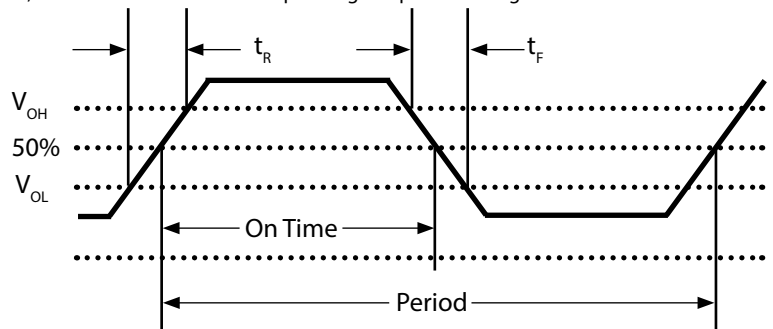

Fig 2: Waveform
- 5) Duty Cycle is measured as On Time/Period, see Fig 2.
5] Duty Cycle is measured as On Time/Period, see Fig 2.
- 5] Duty Cycle is measured as On Time/Period, see Fig 2.